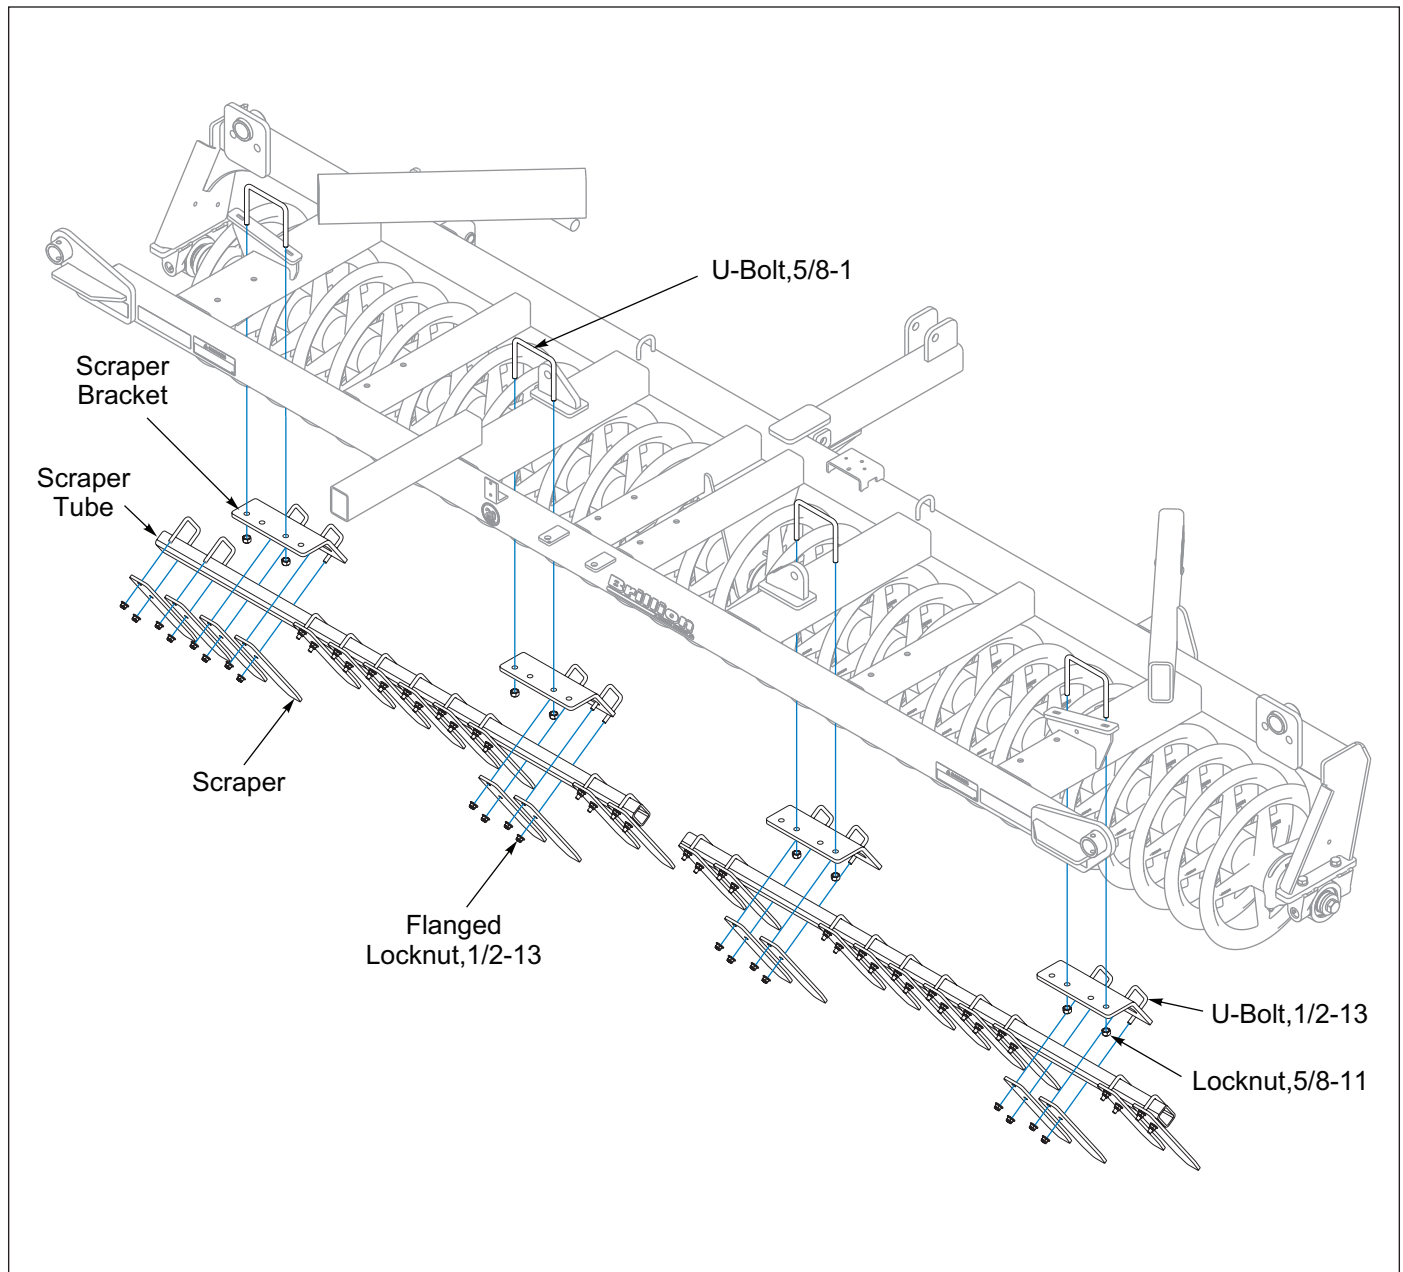

Figure 2-23: Center V-Wheel Scraper - Optional
1. Place the Center Roller on level ground. Assemble 5/8-11 U-Bolts over the top of the frame center and outer cross tubes through the Scraper Brackets with Locknuts. **See Figure 2-23.** Do not tighten.